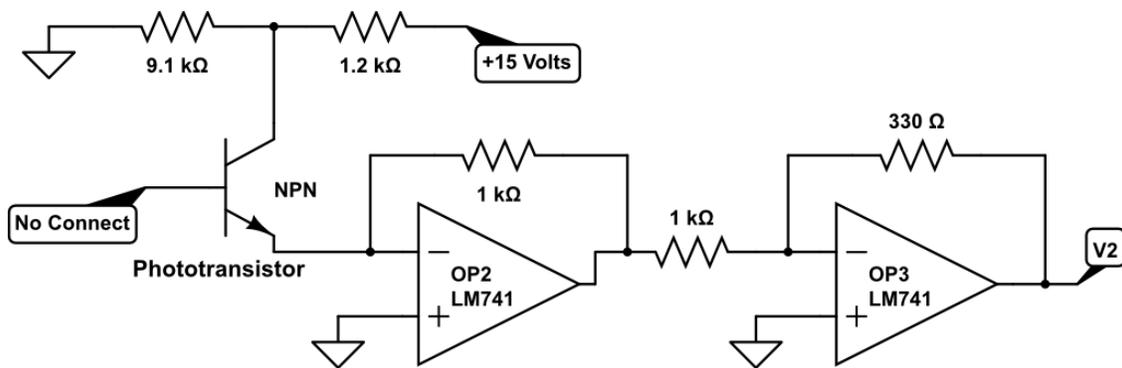
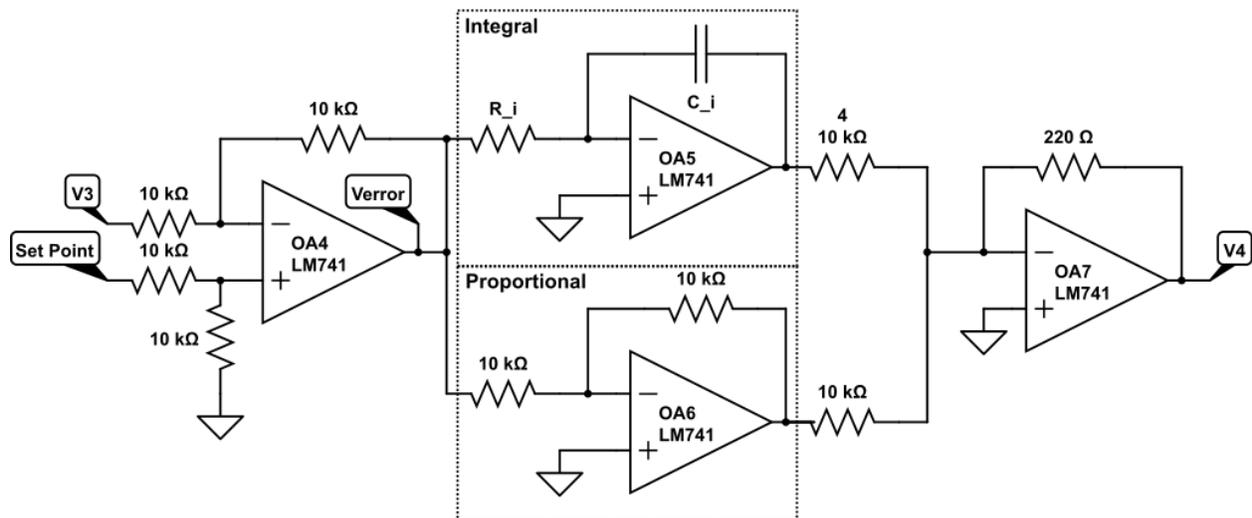

Figure 7: Phototransistor Usage
Figure 8: Error Handling Section
- Connect $V2$ (from figure 7) to $V3$ (from figure 8). The feedback loop is now complete.
- Construct the proportional component from figure 8 and connect it as shown.